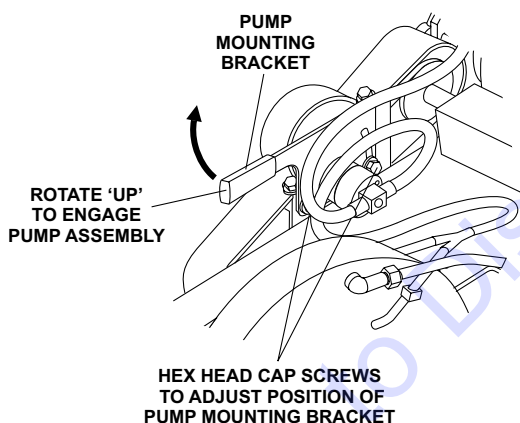

Figure 11. Pump Engage
1. Loosen the 2 hex head cap screws (Figure 11) that secure the pump mount bracket.